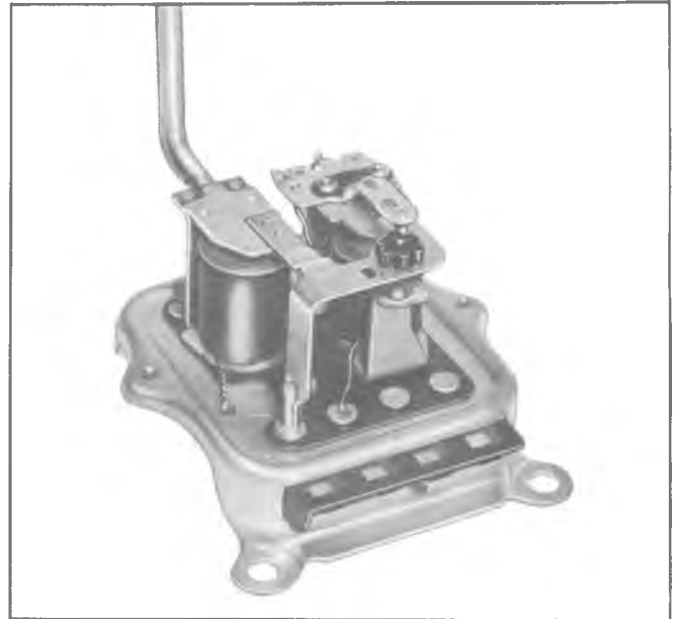

Fig. 9c—Adjusting Field Relay Closing Voltage
4. Slowly decrease resistance and note closing voltage of the relay. Adjust by bending heel iron in the manner illustrated in Figure 9c.